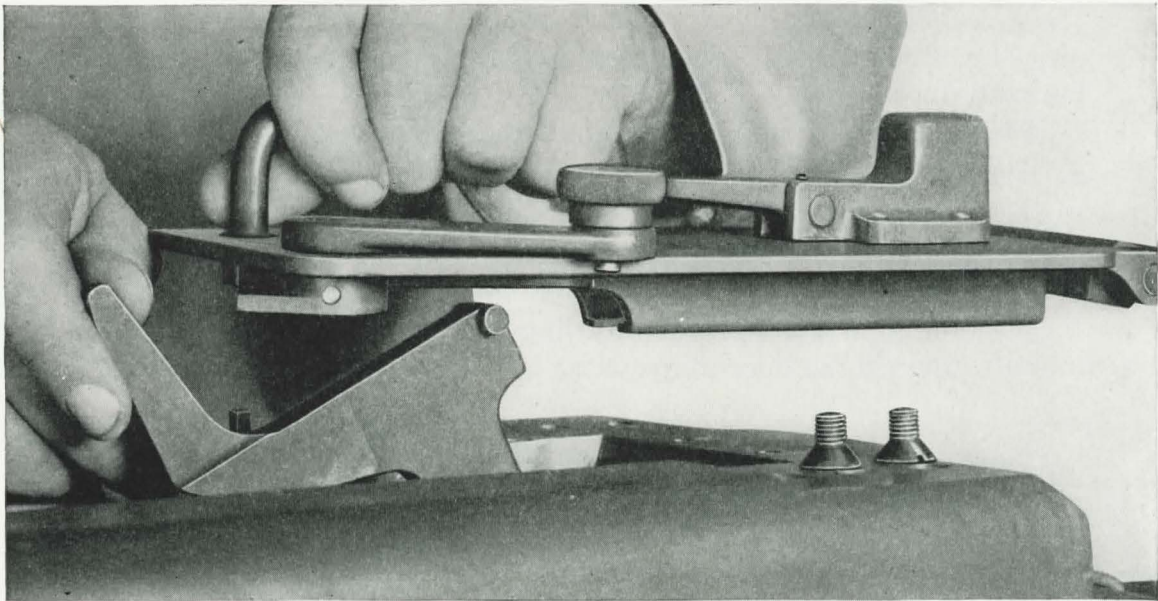

Figure 80
- (1) Insert the barrel lock in the top door guide, **Figure 80**, and then slide the door rearward into position.
- (2) Install the hinge retaining screws (5/16"—24 x 1/2") and the dowel pin (No. 2 x 3/4").
- (3) After the door is closed, lift the knurled head (298701-3) and swing the lever (298713-4) forward to engage the arm (298701-1).